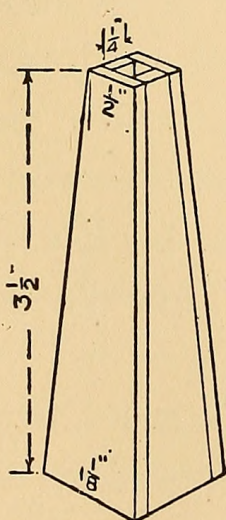

FIG. 235.
**The Round Center-table** (Fig. 231) should have a base built up of four strips as shown in Fig. 235.